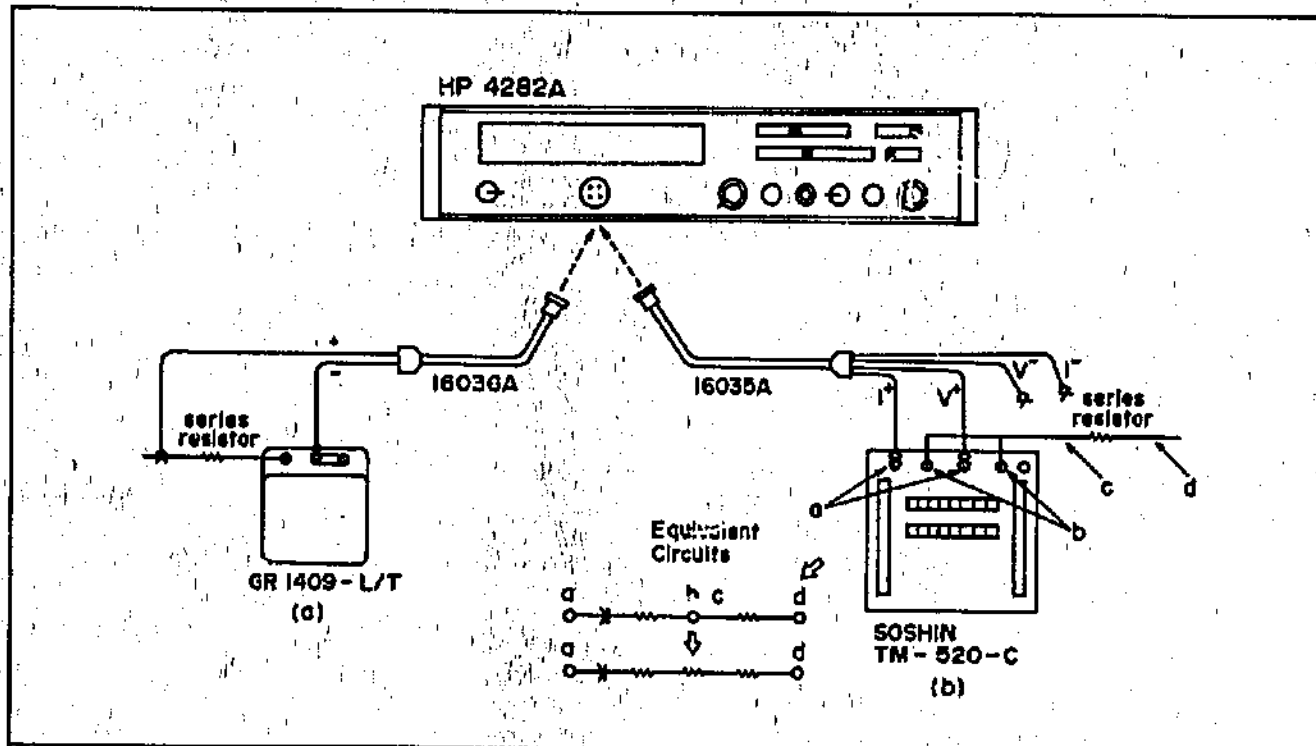

Figure 5-4. Loss Measurement Accuracy Check.
5-17. The loss measurement accuracy check (including dissipation factor and ohm-farad measurement accuracy check), shown in Figure 5-4, requires standard capacitors GR 1409-L, GR 1409-T and SOSHIN TM-520-C (with certificate) and resistors -hp P/N 0698-0369, 1M $\Omega$ ; 0698-8358, 100k $\Omega$ ; 0698-8380, 10k $\Omega$ ; 0698-8382, 1k $\Omega$ ; 0698-8323, 100 $\Omega$ ; 0811-1988, 10 $\Omega$ ; 0811-2061, 1 $\Omega$  and 0811-3039, .1 $\Omega$ . Proceed as follows:
b. Build up standard impedances as shown in Figure 5-4(a).
- f. Build up standard impedance using SOSHIN TM-520-C and 10k $\Omega$  resistor in a series connection as shown in Figure 5-4(b). Set SHOSHIN TM-520-C to 1  $\mu F$ .
- g. Measure ohm-farad ( $\Omega F$ ) between points a and b as shown in Figure 5-4(b) and note display ( $\Omega Fab'$ ) in  $\Omega mF$ .